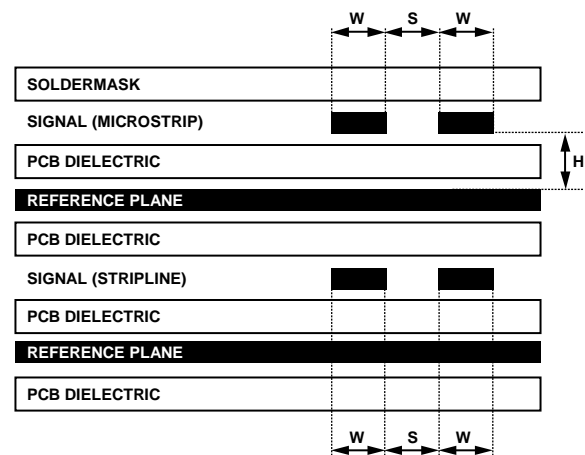

Figure 75. Example of a PCB Cross-Section
Route the high speed differential inputs and outputs with 100 Ω controlled impedance differential transmission lines. Reference the transmission lines, either microstrip or stripline, to a solid low impedance reference plane. An example of a PCB cross-section is shown in Figure 75. The trace width (W), differential spacing (S), height above reference plane (H), and dielectric constant of the PCB material determine the characteristic impedance. To minimize crosstalk, keep adjacent channels apart by a distance that is greater than three trace widths (3W).